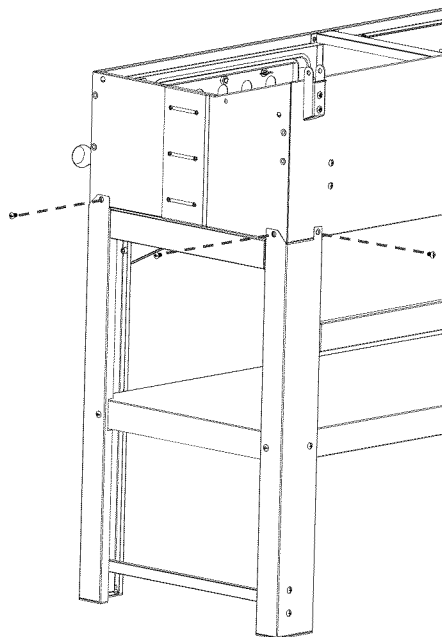
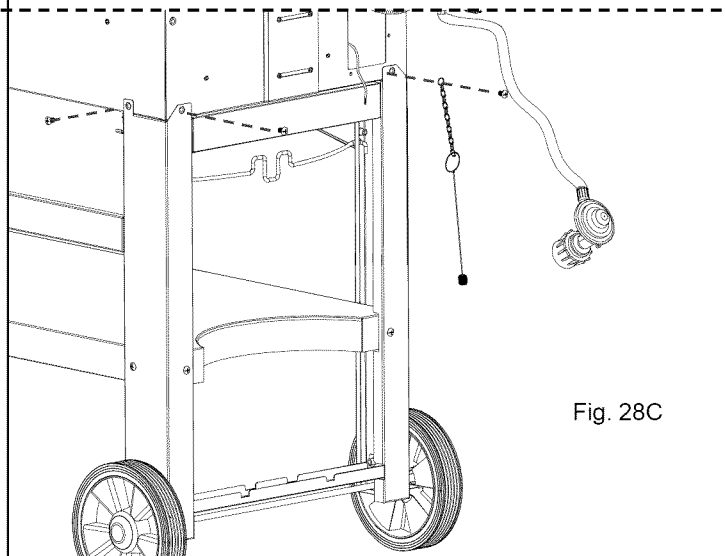

Fig. 28B
Fig. 28C
Attach the Cabinet to each Legs using a total of (6) M6x12 bolts as shown as Fig. 28B and Fig. 28C.
*Note:* When attaching the Left Front Leg, attach the Match Holder and Chain by inserting the (1) M6x12 bolt through the loop of the chain and securely tightening as shown as Fig. 28C.